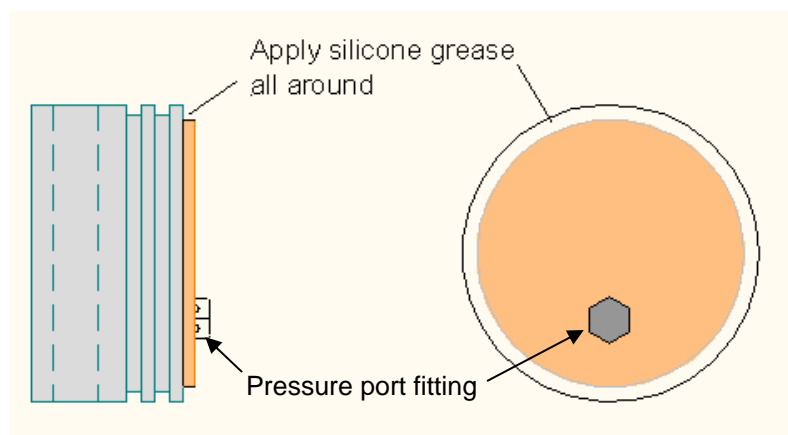

Figure 7 – Application of protective silicone grease on Forward Bulkhead
- 2. Confirm that pressure port fitting is installed in bulkhead and tightly fastened (ref. Fig.7)
- 5. Apply a generous amount of silicone grease on the bulkhead around the edge of the cork liner, as illustrated in Figure 7.